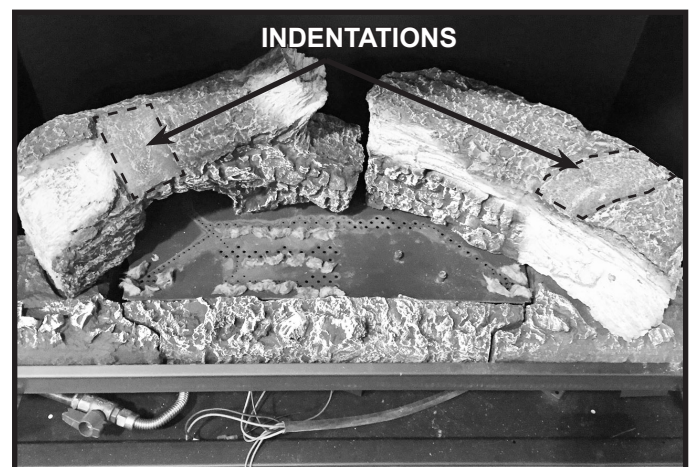
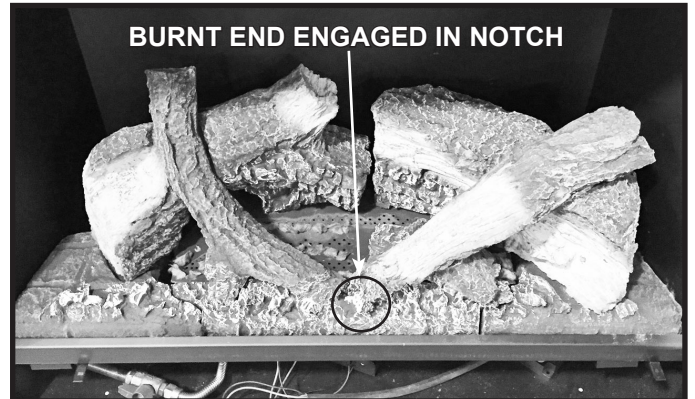

Figure 6. Glowing Embers® Installed
Figure 9. Top Right Log Installed - Log Set Complete
- Top left and top right logs, which lay across the rear left and rear right logs, utilize the “indentations” in the rear left and rear right logs for proper placement. See Figure 6.
4. Remove top left log from packaging. Place the log into the indentation on the left rear log. The indentation is highlighted in Figure 6. The bottom two points of the log will rest on the center hearth component. See Figure 7.
6. Remove right top log from packaging. There is an indentation located in the right rear log which "cradles" the right top log. The indentation is highlighted in Figure 6. The burnt end of the log will engage a notch in the middle hearth component. See Figure 9.